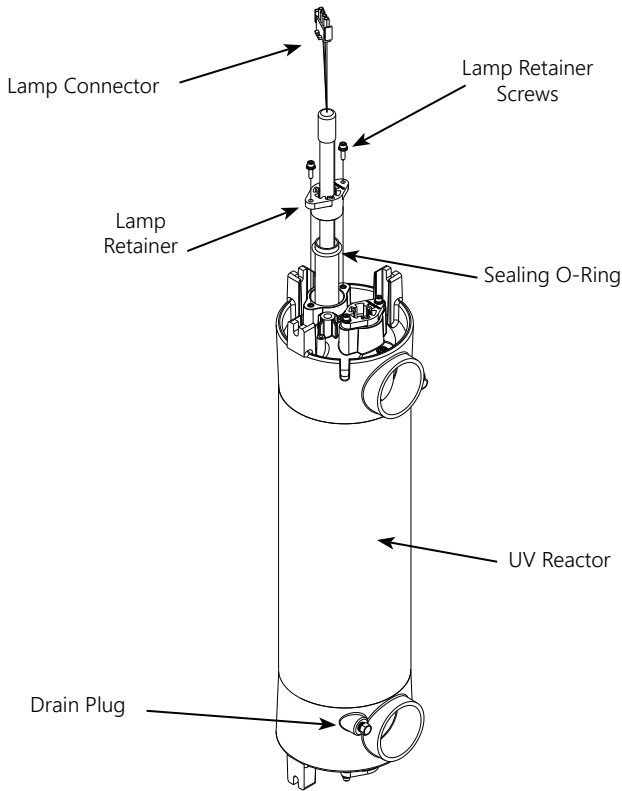

Figure 6: UV Reactor Subassembly
3. Locate the drain plug (Refer to Figure 6) and remove to drain the remaining water in the DEL AOP 50.
3. Place the lamp retainer over the quartz tube and using the hex key included in the parts bag, attach the lamp retainer to the UV reactor using the lamp retainer screws and washers as shown in Figure 6. Make sure the lamp retainer flanges are fully seated against the UV reactor.